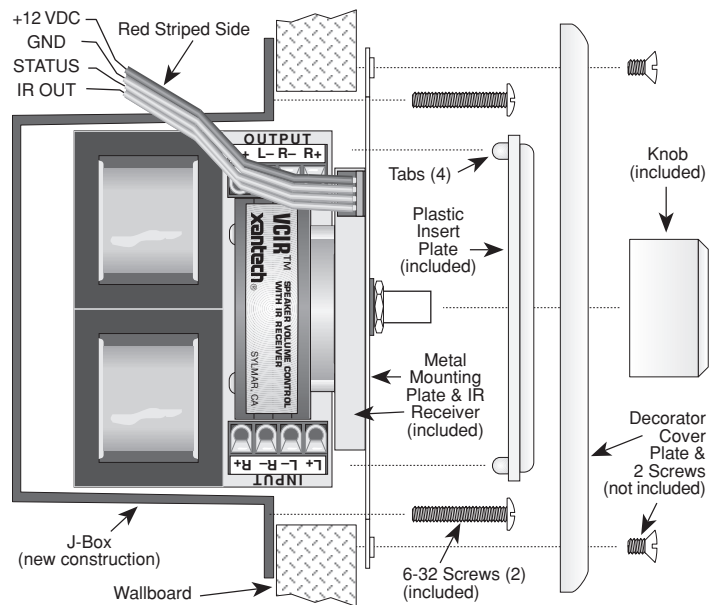

Fig. 6 VCIR-CFL Mounting Details
- **4-Terminal Block** (with double sided tape for mounting) included for easy extension of 18" ribbon lead. See **Fig. 6** for lead identifications.
- The decorator-style **plastic insert plate** (supplied) is available in either white or ivory. It mounts with four plastic tabs and light adhesive, allowing it to be removed for refinishing to other colors, if desired. Remove by pressing on the tips of the tabs while pulling outward on the insert plate. Be sure to remove the push-on knob first. Refer to Fig. 6. **Also, be sure not to paint over the two IR circular windows!** Cover with masking tape before painting.
- Mount the unit using the hardware provided, referring to Fig. 6. The VCIR-CFL is attached to wall J-boxes using the two 6-32 pan-head screws supplied. Slots are provided in the metal mounting bracket so that adjustments to vertical alignment can be made.